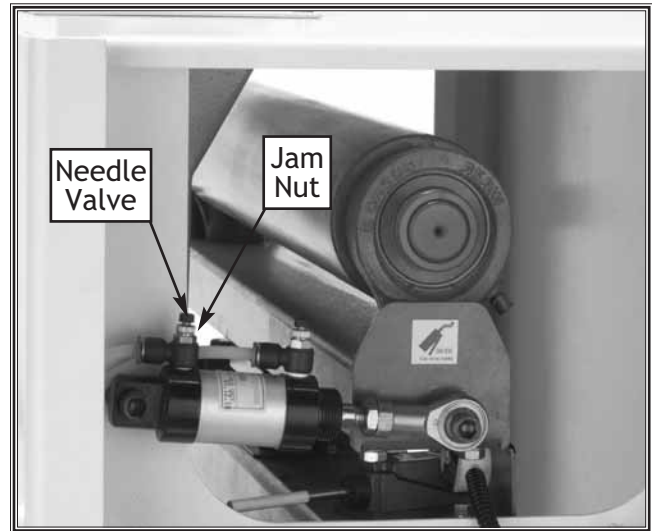

Figure 15. Belt oscillation adjustment.
5. Loosen the needle valve jam nuts. See **Figure 15**.